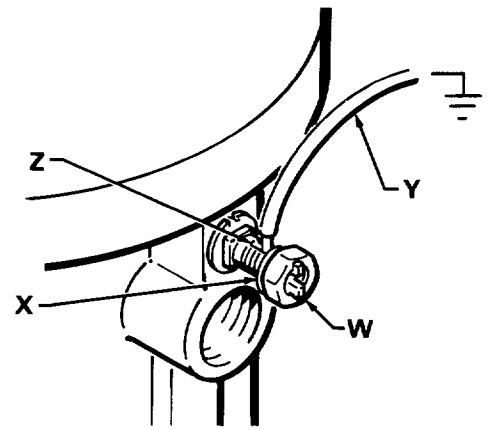

Fig 1
1. *Pump*: use a ground wire and clamp as shown in Fig 1.
To ground the pump, loosen the grounding lug locknut (W) and washer (X). Insert one end of a 12 ga (1.5 mm²) minimum ground wire (Y) into the slot in lug (Z) and tighten locknut securely. See Fig 1. Connect the other end of the wire to a true earth ground. Refer to page 15 to order a ground wire and clamp.